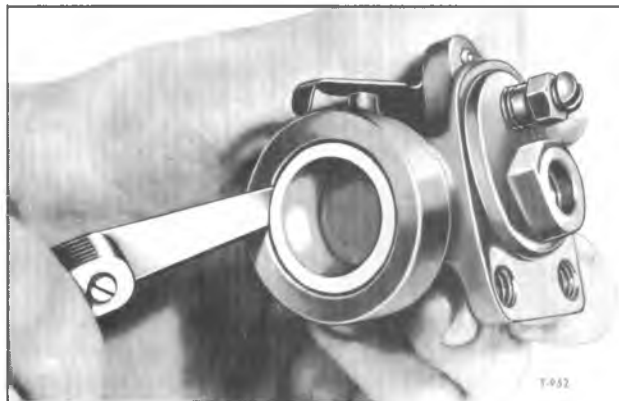

Figure 19—Checking Fit of Piston in Wheel Cylinder
3. Check fit of new pistons in cylinder bore, using a feeler gauge (fig. 19). Clearance should be within 0.0025" to 0.0065" on "F" and "FA" type cylinders. Replace cylinder if clearance exceeds the maximum.
3. Check fit of new pistons in cylinder bore, using a feeler gauge. Clearance should be within 0.002" to 0.004". Replace cylinder if clearance exceeds 0.004". Refer to figure 19.
3. Check fit of new pistons in cylinder bore, using a feeler gauge as shown in figure 19. Clearance should be within 0.001" to 0.005" on "FR-3" type. Replace cylinder if clearance exceeds the maximum.